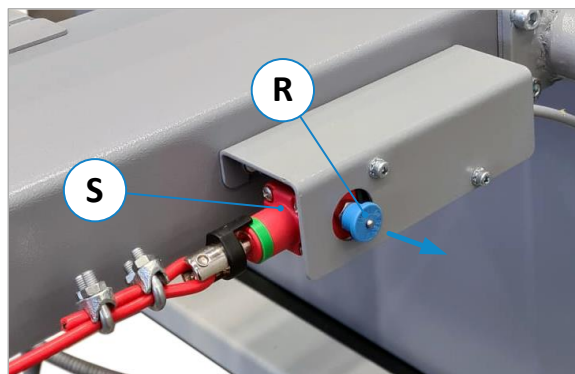

Figure 39: Reset emergency stop state
- The emergency stop situation is triggered by the ripcord switch (S), see ⇒ Figure 39).